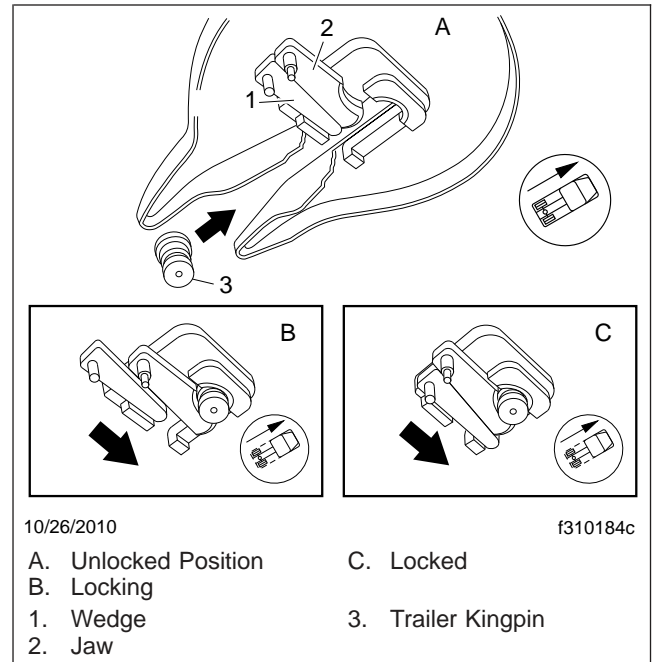

Fig. 10.16, Fontaine Kingpin Lock Mechanism
The Fontaine fifth wheel lock mechanism for the trailer kingpin (**Fig. 10.16**) consists of a spring-loaded jaw and a sliding wedge.
During coupling (**Fig. 10.16**), the motion of the kingpin entering the jaw will actuate the jaw and wedge. The jaw will move behind the kingpin, followed by the wedge. The purpose of the wedge is to reinforce the jaw and take up slack around the pin. Any wear on the jaw is immediately taken up by the wedge so there is no slack in the connection.
- Position the tractor so that the fifth wheel lock opening is in line (both vertically and horizontally) with the trailer kingpin. The kingpin should be in a position to enter the throat of the locking mechanism (**Fig. 10.16**). Adjust the trailer landing gear to give enough alignment height for positive kingpin lockup.